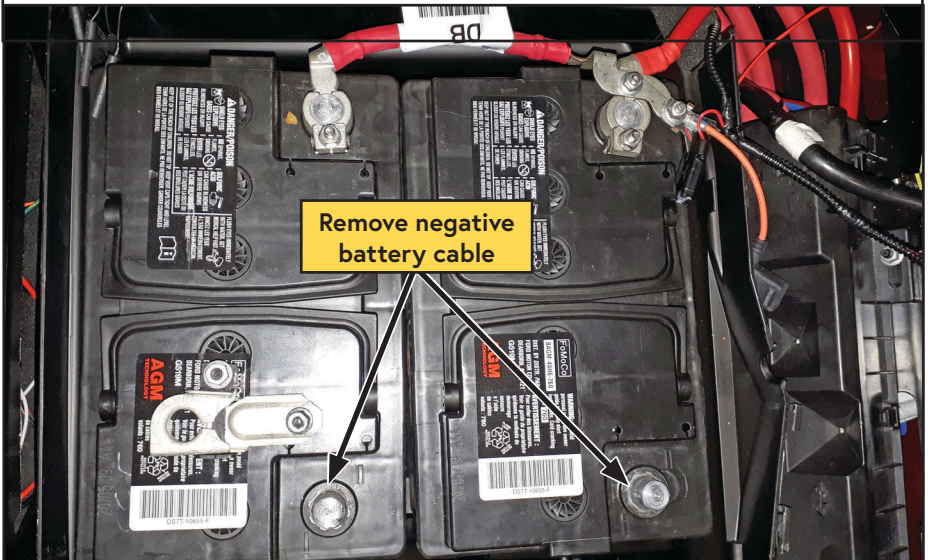

Figure 10 — Battery cables
- Disconnect the negative battery cable(s) from the battery terminal stud (Figure 10).